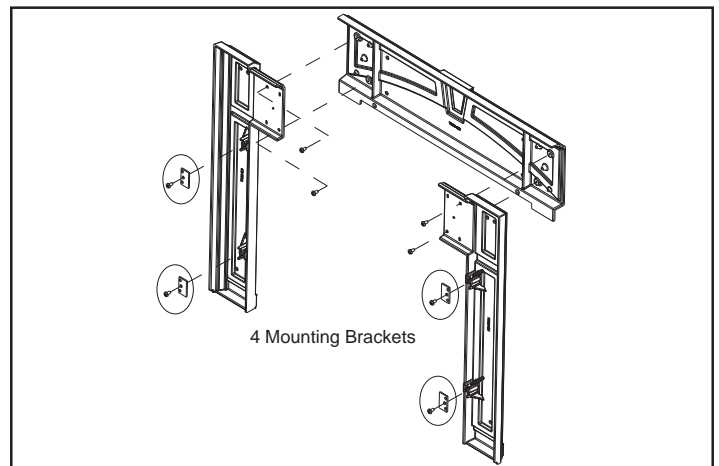

Figure 22.5
**Included in Surround Kit:** (2) side pieces, left and right; (1) top piece; (1) fastener package.
4. Attach the mounting brackets to the side pieces included with the kit. **Figure 22.5.**